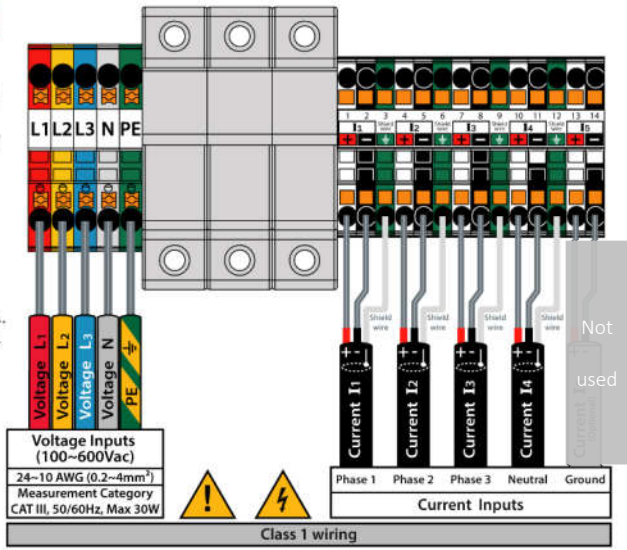

Figure 1
- Connect the Rogowski coil secondary wires for I1 - I4 to terminals 1 — 12 per Figure 1 (below).